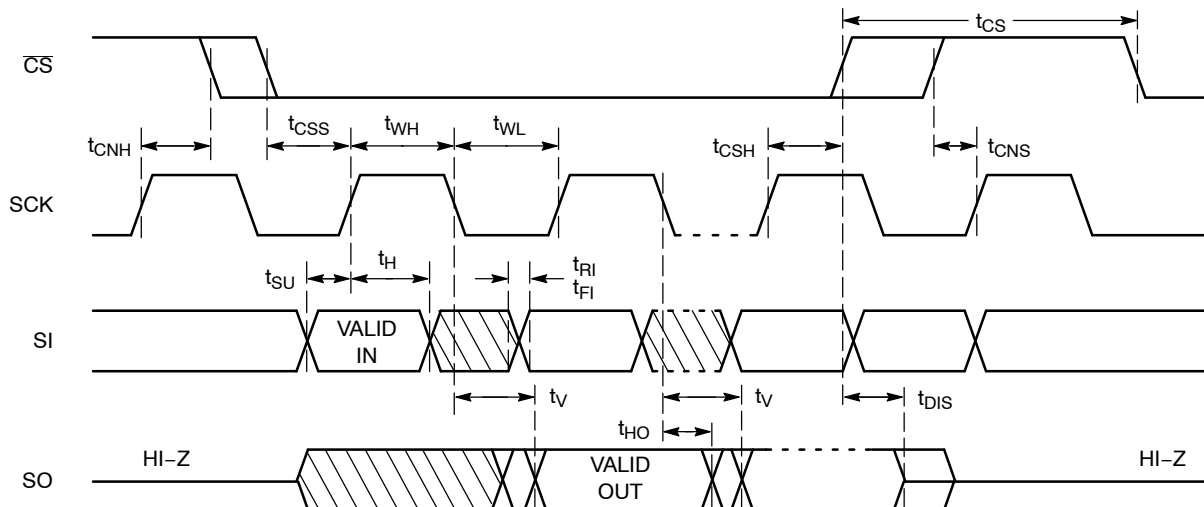

Figure 2. Synchronous Data Timing
8. **All Chip Select (CS) timing parameters are defined relative to the positive clock edge (Figure 2). t_{CSH} timing specification is valid for die revision D and higher. The die revision D is identified by letter "D" or a dedicated marking code on top of the package. For previous product revision (Rev. C) the t_{CSH} is defined relative to the negative clock edge (please refer to data sheet Doc. No. MD-1006 Rev. U)**
After a high to low transition on the \overline{CS} input pin, the CAT25010/20/40 will accept any one of the six instruction op-codes listed in Table 7 and will ignore all other possible 8-bit combinations. The communication protocol follows the timing from Figure 2.